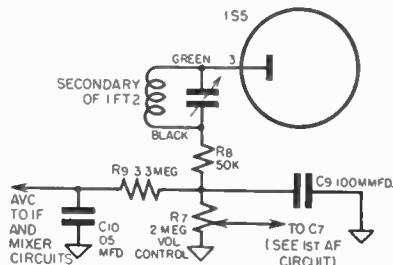

Fig. 8-8. Detector circuit.
e) *Detector Circuit.* See Figure 8-8.
Connect the green wire of the first i.f. transformer to the grid terminal of the tube socket. Complete the wiring by connecting the black, or grid return, wire of the i.f. transformer to the AVC point, located at the junction point of resistor R9 and condenser C10 (see detector circuit, Figure 8-8).